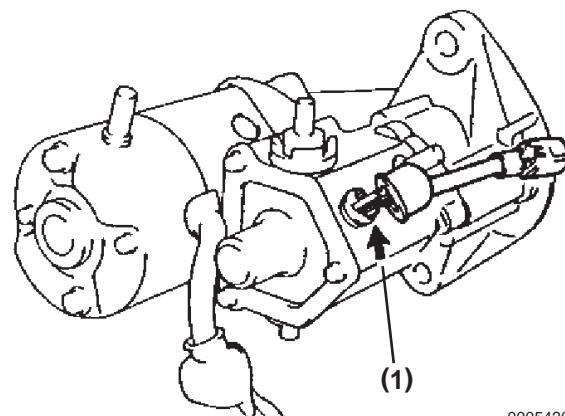

Figure 10-42
13. Connect the lead wire to terminal 50 (Figure 10-42, (1)) using a screw and washer and torque to 41 kgf·cm, 4.02 N·m (35.5 lb-in.).